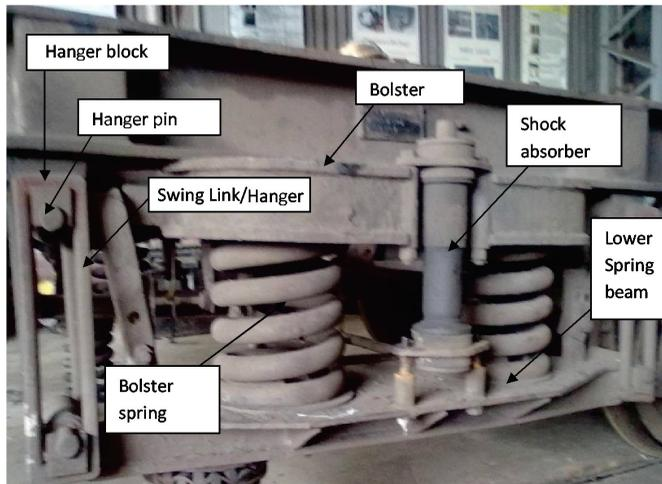

Figure 5: ICF All-Coil Bogie – Secondary Suspension
The secondary suspension arrangement of the ICF bogies is through bolster springs. The bogie bolster is not bolted or welded anywhere to the bogie frame. It is attached to the bogie frame through the anchor link. Weight of the coach is transferred through side bearers on the bogie bolster. The ends of the bogie bolster rests on the bolster helical springs placed over the lower spring beam suspended from the bogie frame. A photograph of the Secondary Suspension arrangement is shown in Figure 5.
Swing Link/Hanger is an important component of bogie as it transfers both vertical and lateral loads at the secondary suspension stage (Fig. 5). Due to swivel action, wear occurs on the Hanger block and inside surface of Hanger. Any tendency of jamming of swing links (at points of articulation in bogie frame and spring plank) during lateral swing would result in occurrence of higher flange forces (Y) and higher lateral accelerations in the coach. Wear limits of Hanger block and limit of clearance inside length of Hanger are stipulated. Upon exceedence of the limits, these components are replaced. Else, chances of failure of Hanger would be high. Swing link is a vulnerable component. Hence, its failure should be observed at the derailment site.